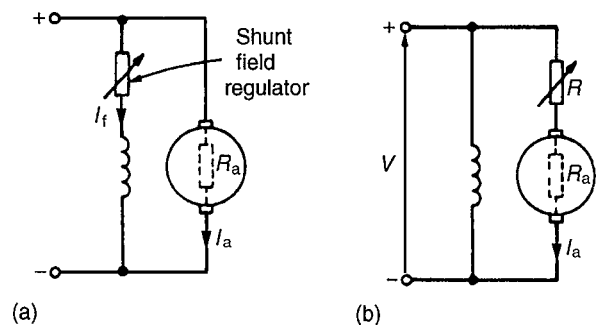

Figure 22.29
(see equation (9)). The speed is varied either by varying the value of flux, Φ , or by varying the value of R_a . The former is achieved by using a variable resistor in series with the field winding, as shown in Fig. 22.29(a) and such a resistor is called the **shunt field regulator**.